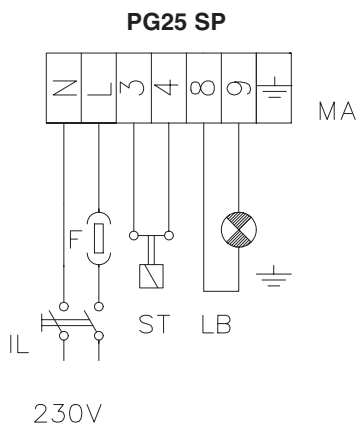
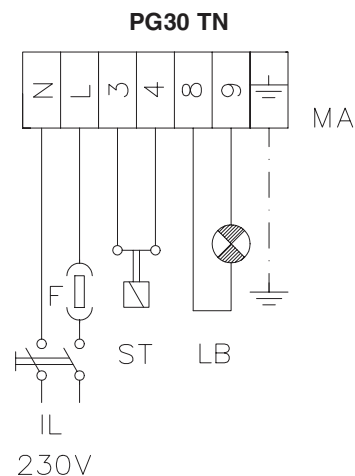

Fig. 8b
Fig. 8c
- Effect the connections to the supply terminal board following the diagrams in Fig. 8b and Fig. 8c; refit the cover on the electrical board.